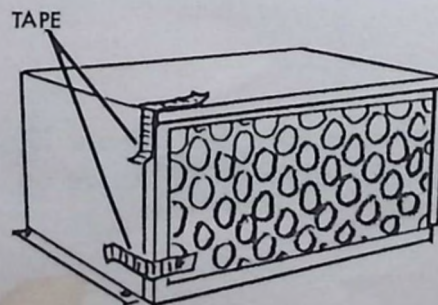

FIGURE 17
26. Tape the dust filter in place. (Figure 17) This will keep it in place during any movement of the bed assembly.